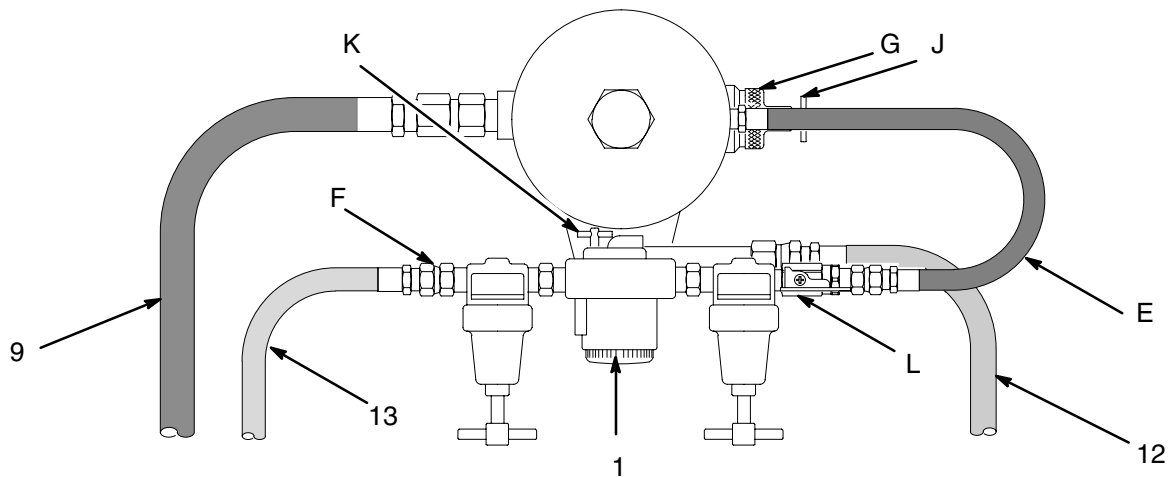

Fig. 4
Slide the truck handle (206) through the elevator (304) slide tubes and into the truck base sockets. Tighten the setscrews (205) in the sockets as shown in Fig. 4.
Connect the air and fluid hoses to the Evenflo Control and the gun as shown in Fig. 2 and Fig. 4. Tape the air and fluid hoses every 18 in. (457 mm) for easier handling.
Mixing by Circulation (Fig. 4)
Pump Operation (Fig. 4)